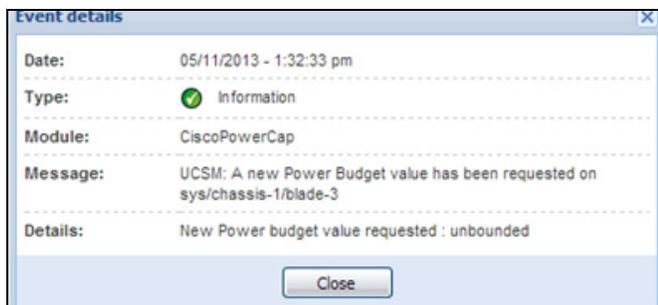

Figure 153. New Power Budget Requested
- A new power budget has been requested by the client (see Figure 153).